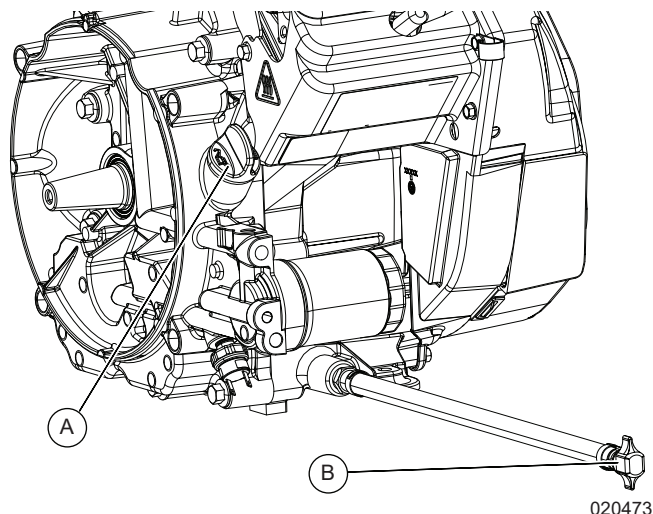

Figure 4-1. Oil Dipstick and Oil Drain Cap
1. See Figure 4-1. Remove oil dipstick (A) and wipe dipstick clean.
1. See Figure 4-1. Remove oil drain cap (B) and drain oil while engine is still warm.
5. See Figure 4-1. Remove oil dipstick (A) and fill slowly with new oil of required service classification and viscosity grade. Fill to bottom of threads in oil fill opening.